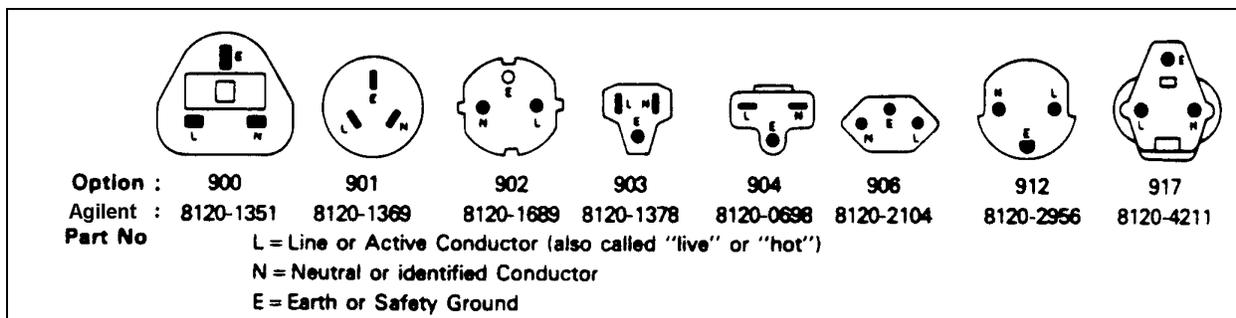

Figure 3-1. Power Cord Configurations
Your Electronic Load was shipped with a power cord for the type of outlet used at your location. If the appropriate cord was not included, refer to Figure 3-1 for the part number and order option for your type of cord. Contact your nearest Agilent Sales and Service Office to obtain the correct cord. Refer to “*Check Line Voltage*” to check the line voltage selection and fuse type.
**SHOCK HAZARD** The power cord provides a chassis ground through a third conductor. Be certain that your power outlet is of the three-conductor type with the correct pin connected to earth ground (see Figure 3-1).